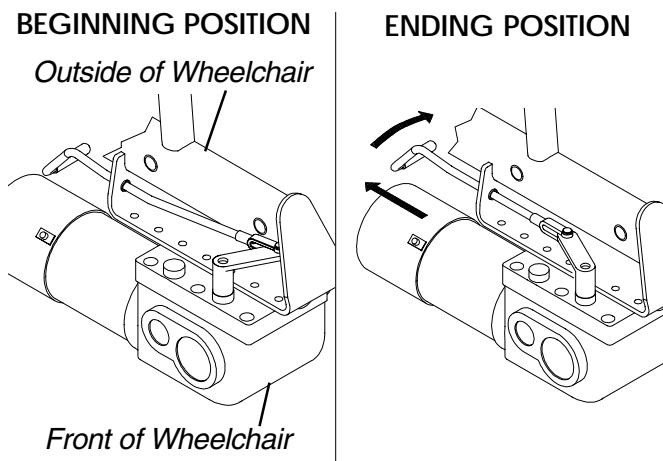

FIGURE 16 - DISENGAGING CLUTCHES
- B. **DISENGAGE (FIGURE 16)**-